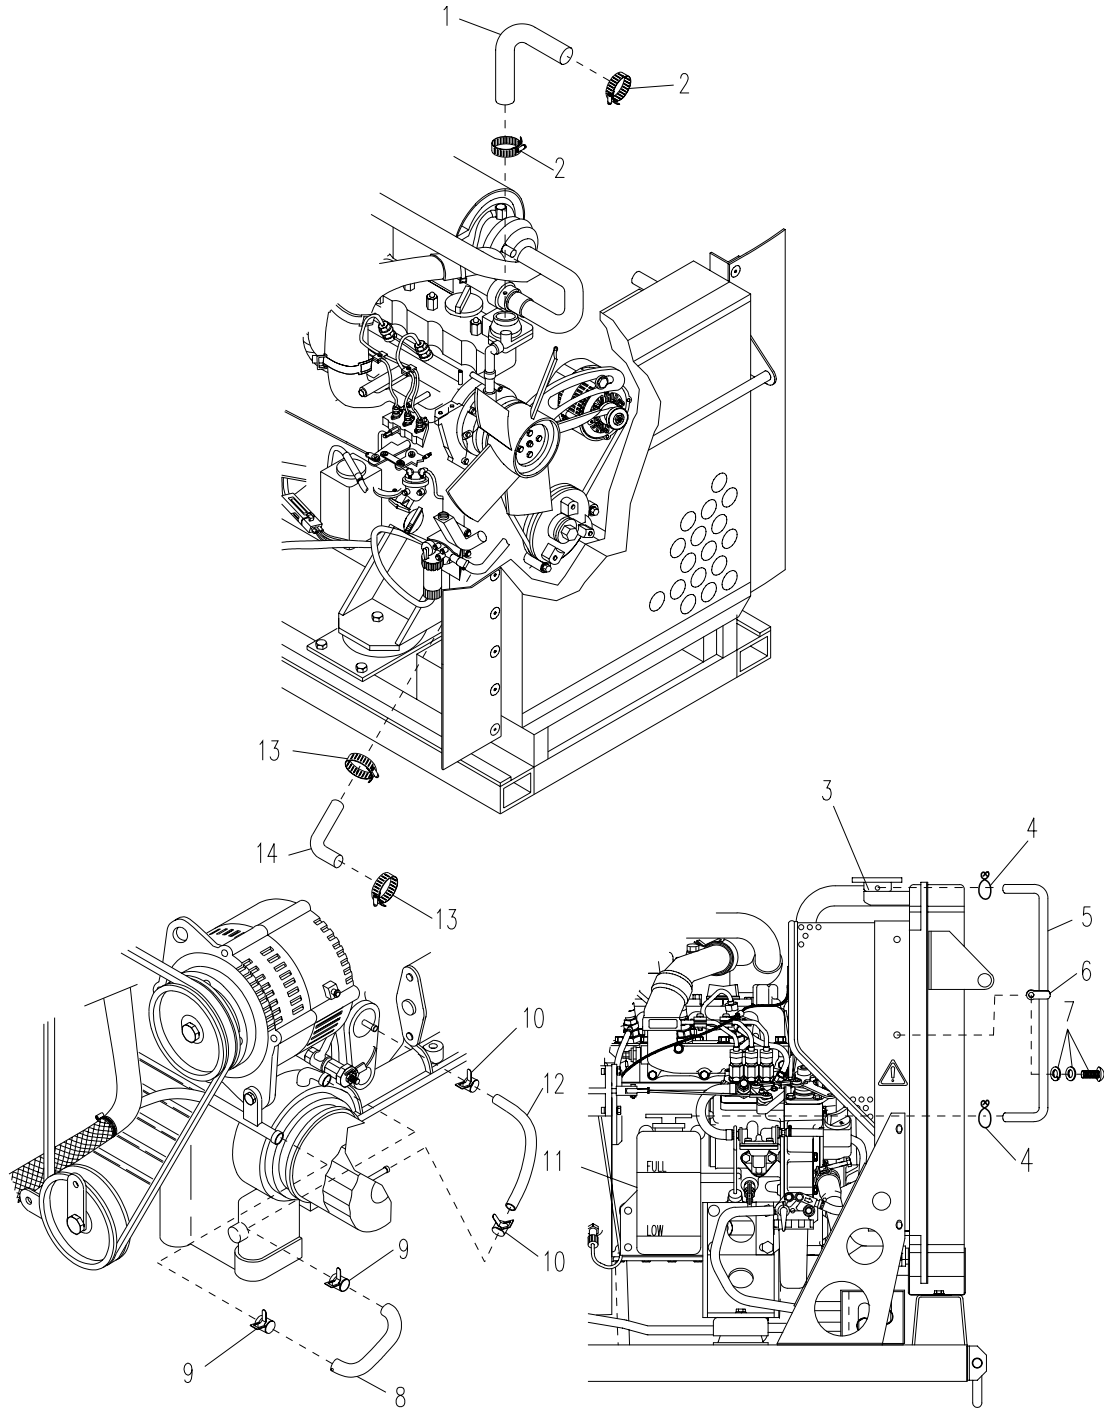

Figure 4-11. Radiator Hoses
- a. Inspect upper and lower radiator hoses (1 and 12, Figure 4-11), oil cooler inlet hose (6), oil cooler outlet hose (8), and radiator overflow tank hose (3) for loose clamps, water leakage, swelling, hardening, or cracking.